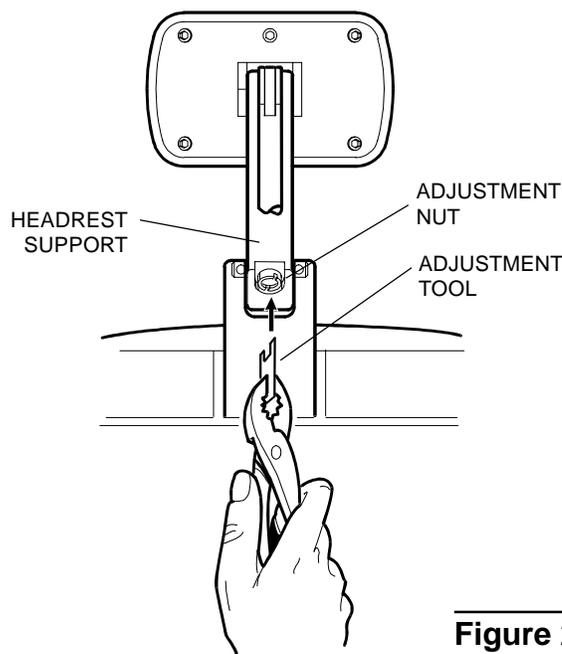

Figure 2
- 2) Locate the adjustment nut on the underside of the headrest support (See Figure 2). Using the adjustment tool #121429 provided and a pair of pliers, turn the nut slightly (less than 1/8 turn). *NOTE: Clockwise will increase locking force and counter clockwise will decrease locking force.*